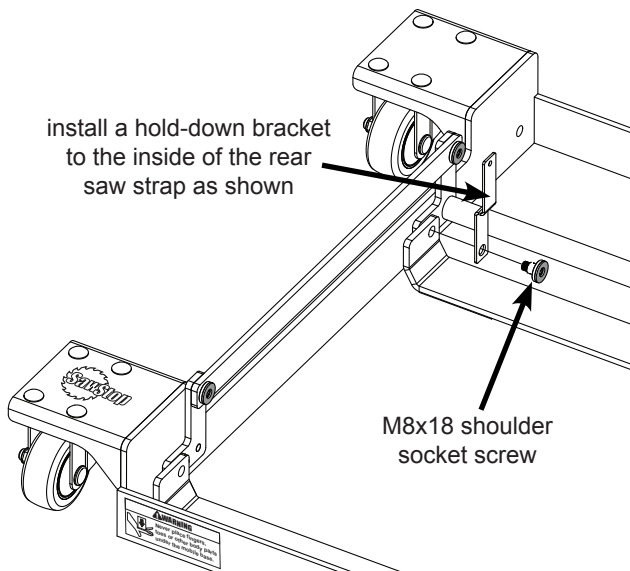
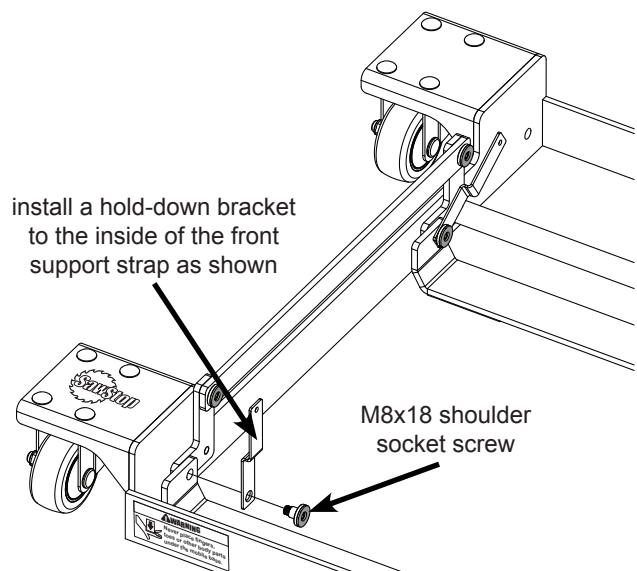

Fig. 7a
Fig. 7b
7. Locate the two hold-down brackets and the two M8 x 18 shoulder socket screws. Use one of the M8 x 18 shoulder socket screws to install one of the hold-down brackets to the inside of the rear support strap (see Fig. 7a). Note that the shoulder screw can only pass through the larger hole in the hold-down bracket and the hold-down bracket must be oriented so that it bends inward toward the center of the mobile base (see Fig. 7a). Use the remaining M8 x 18 shoulder socket screw to install the other hold-down bracket to the inside of the front support strap (see Fig. 7b). Fully tighten both screws using a 5 mm hex key.